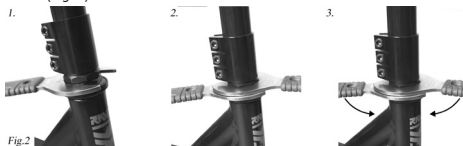

Fig.2
4. If you are equipped with headset wrenches, tighten both nuts together. This way, you will extend the service life until the next adjustment. (Fig. 2)